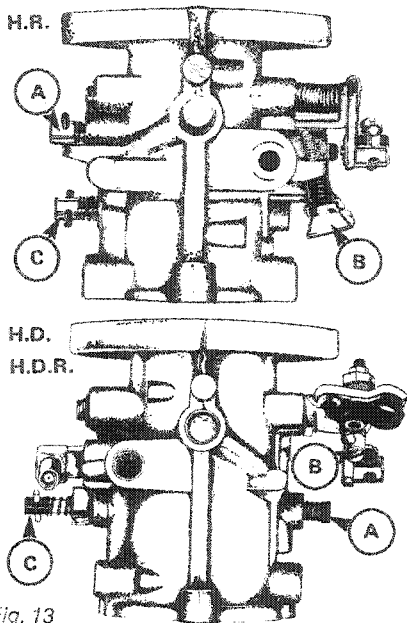

Fig. 13
(1) Maximum Throttle Opening, (2) Idle Speed Mixture, (3) Idle Speed, and (4) High Speed Mixture. (See Fig. 13).